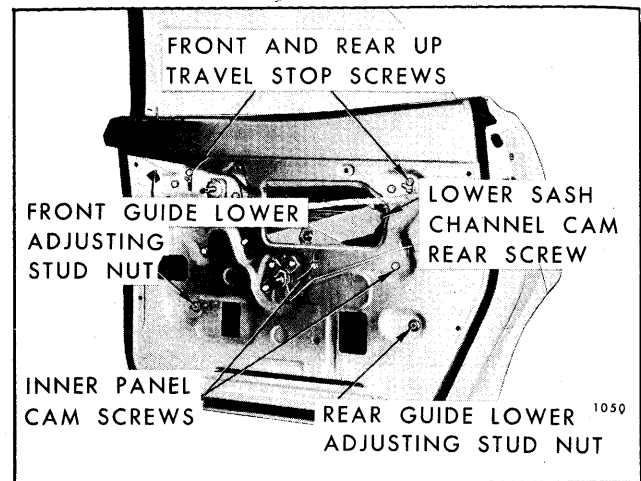

Fig. 7-149—Rear Door Hardware - "Z-39" Styles
- To adjust the top of the window in or out in relation to the side roof rail, loosen the front and rear guide lower adjusting stud nuts (Fig. 7-149). Adjust studs in or out as required, then tighten stud nuts.
- To adjust up-travel of window, loosen front and rear up-travel stop attaching screws (Fig. 7-149). Adjust window to desired position; then, while exerting a slight downward force on stops, tighten attaching screws.
- To rotate glass in the opening (raise or lower upper front corner of glass), loosen inner panel cam attaching screws (Fig. 7-149). Adjust